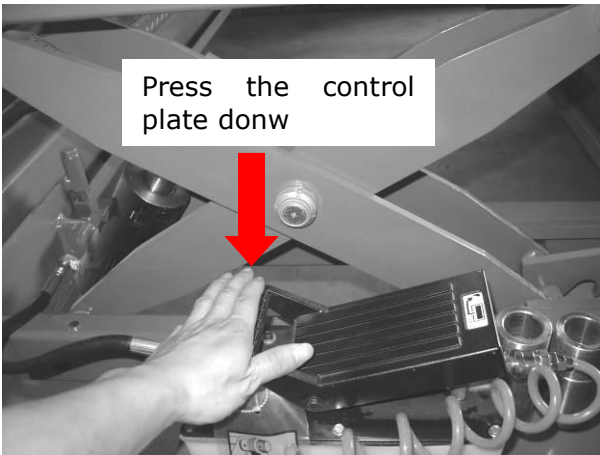

Fig. 9
- ① Press the control plate of the air pump, WEAVER W-7 will going down to the lowest position (Fig. 9)